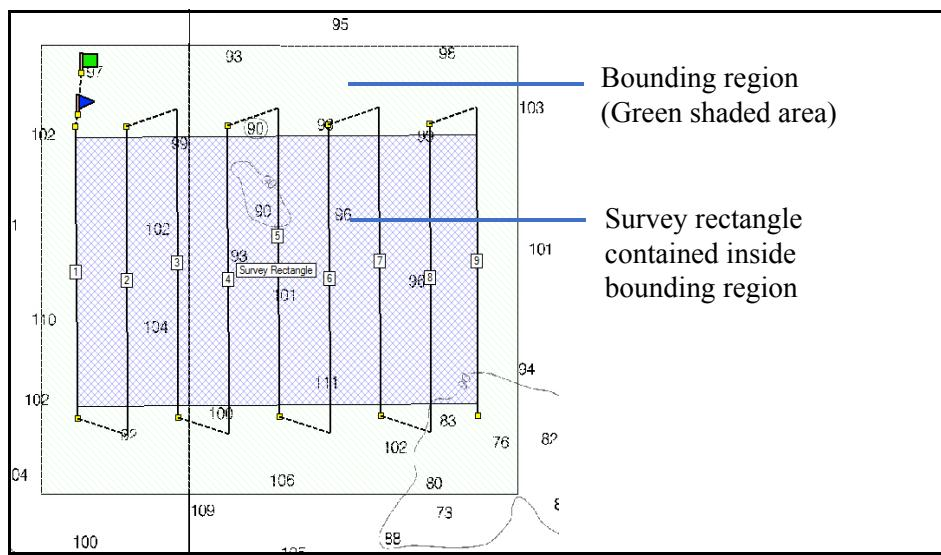

Figure 63: Mission Bounding Region
4. Click again to create the bounding region. The bounding region is displayed on the chart as a green shaded box (Figure 63).
5. Right-click near the first corner to create the keep-in zone. The keep-in zone is displayed on the chart as a green shaded area (Figure 63).
5. Right-click near the first corner to create the keep-in zone. The keep-out zone is displayed on the chart as a red shaded area (Figure 63).